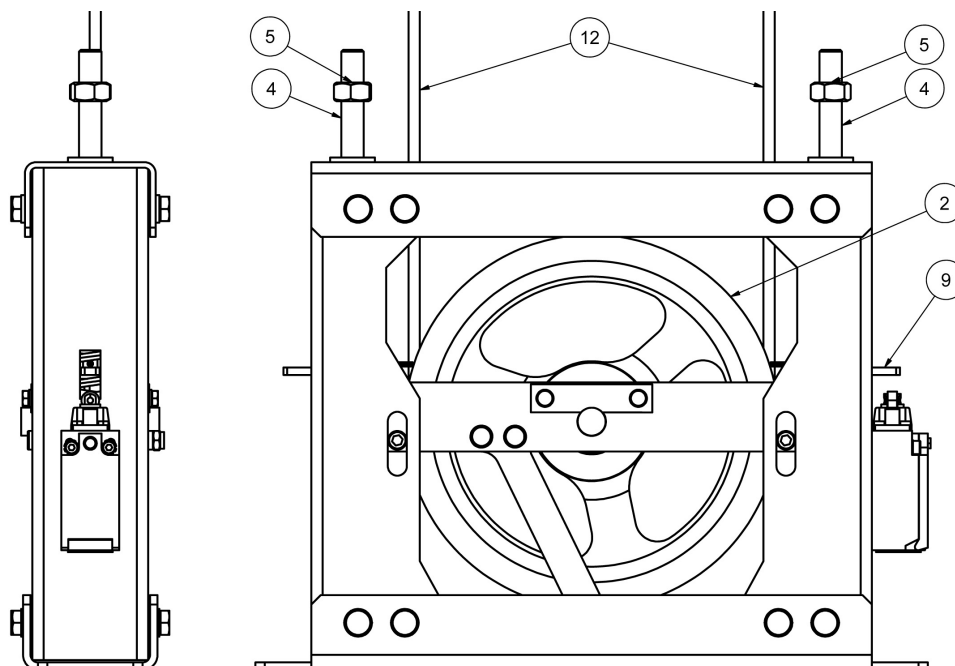

Figure 19: Position after tightening the rope
As the nuts (5) are being unthreaded, the governor's rope (12) becomes tightened. Unthread the nuts (5) until the springs are completely released. It is recommended to assemble these nuts (5) at the end of the spring-compressing rods (4) as displayed in Figure 19